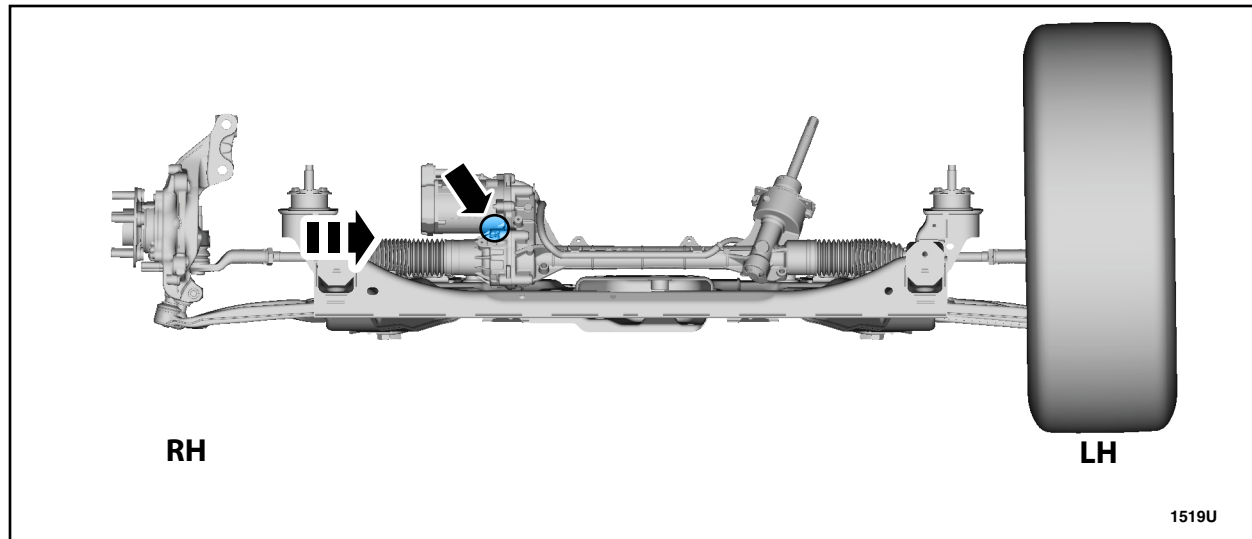

FIGURE 16
2. Working from inside the RH wheelwell, insert spray nozzle under motor and forward between motor and gear. Apply sealant to housing and gear motor seam, gear motor and housing bolts five and six heads, threads and thread holes. See Figures 16 and 17.